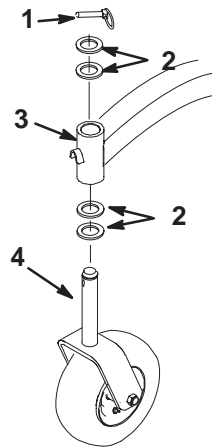

Figure 80
2. Remove the locking pin and spacer(s) from the top of the caster wheel fork (Fig. 80).
6. Inspect the caster wheel fork for wear and replace if necessary (Fig. 80).
7. Slide the caster wheel fork through the bushings in the mounting tube. Replace the spacer(s) onto the fork and secure with the retaining ring (Fig 80).